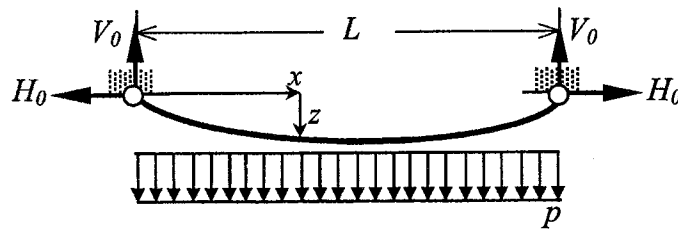

Figure 3
- (c) Figure 3 shows a cable under the action of a load  $p$  distributed uniformly along the horizontal span  $L$ . Show that the deflected shape  $z$  is a parabolic curve.  $H_0$  and  $V_0$  shown in the Figure 3 are horizontal and vertical forces at  $x=0$ , respectively.